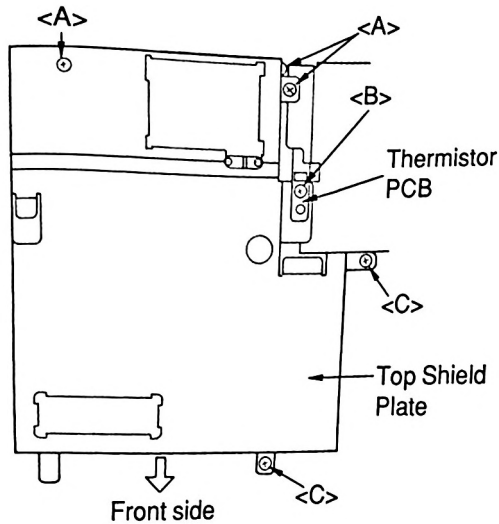

Figure 13
(1) After removing the keyboard, remove three screws <A> (machine screw, 3Ø×6) on the top shield plate, one screw (machine screw, 3Ø×6) on the thermistor PCB and two screws <C> (tapping screw, 3Ø×8) on the top shield plate as shown in Figure 13.
(2) Lift up the top shield plate.